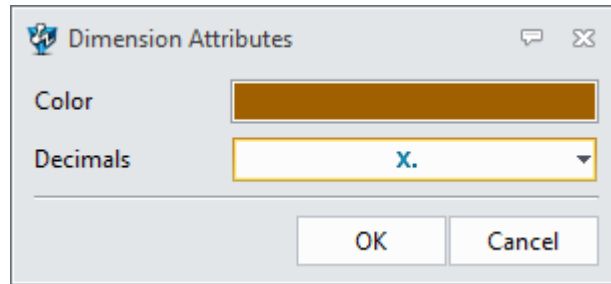

Figure 99 Set Dimension Attribute
**STEP 01** Set the sketch dimension attribute. See the Figure 99.